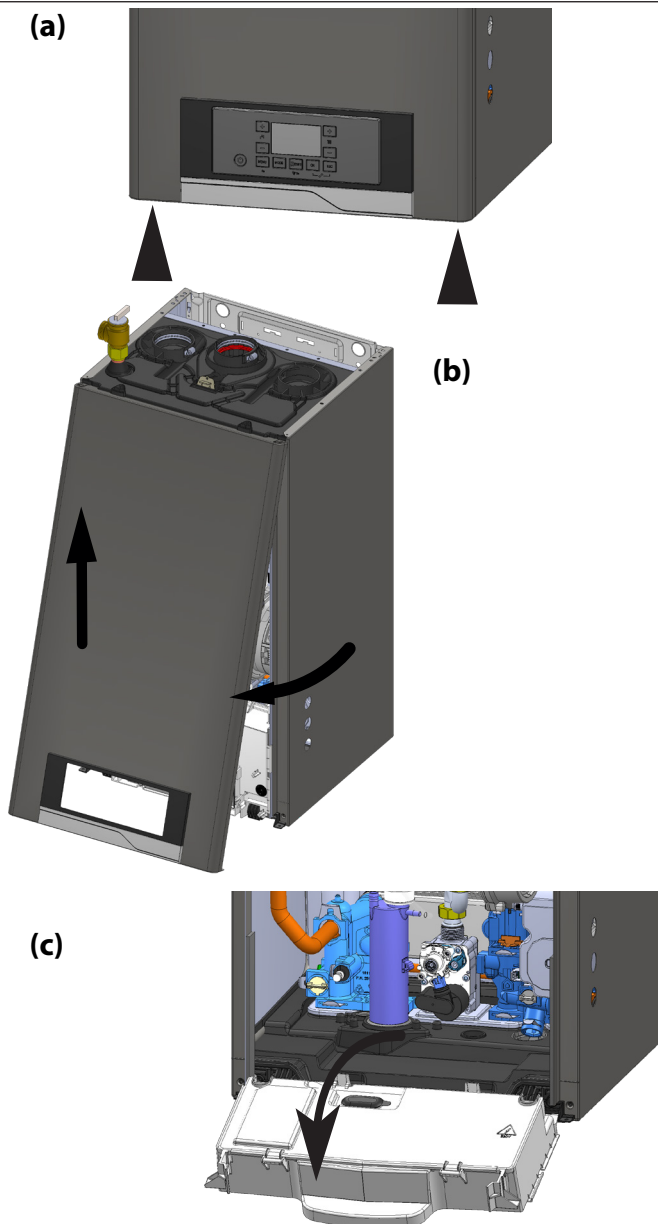

Figure 95 - Removing Housing
See Figure 95 to access the interior of the boiler:
- Remove the front panel as shown in Figure 95.